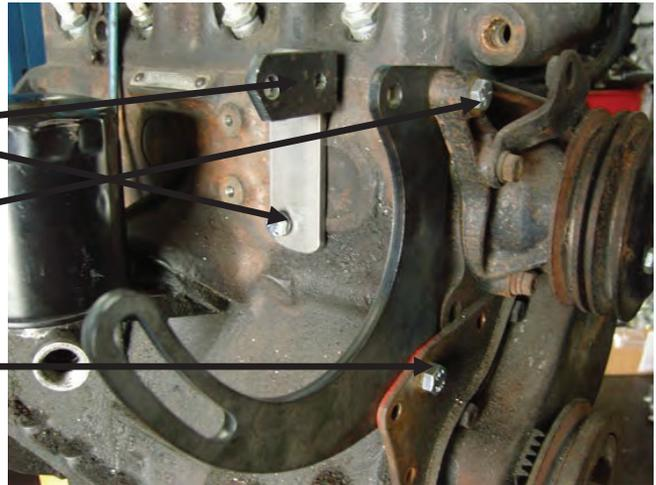

Figure 2
2. INSTALL 2 BRACKETS AS SHOWN IN FIGURE 2.